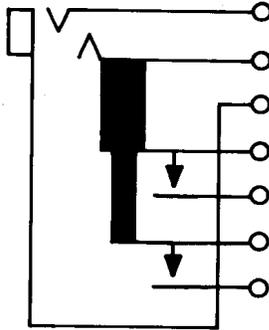

Fig. 23—494A Jack
2.18 494A: This unit-type jack (Fig. 23) is arranged for strip-type mounting and is used with the 310 or similar-type plugs. This jack is used in the J93401E and N Automatic Test Equipment in common systems.